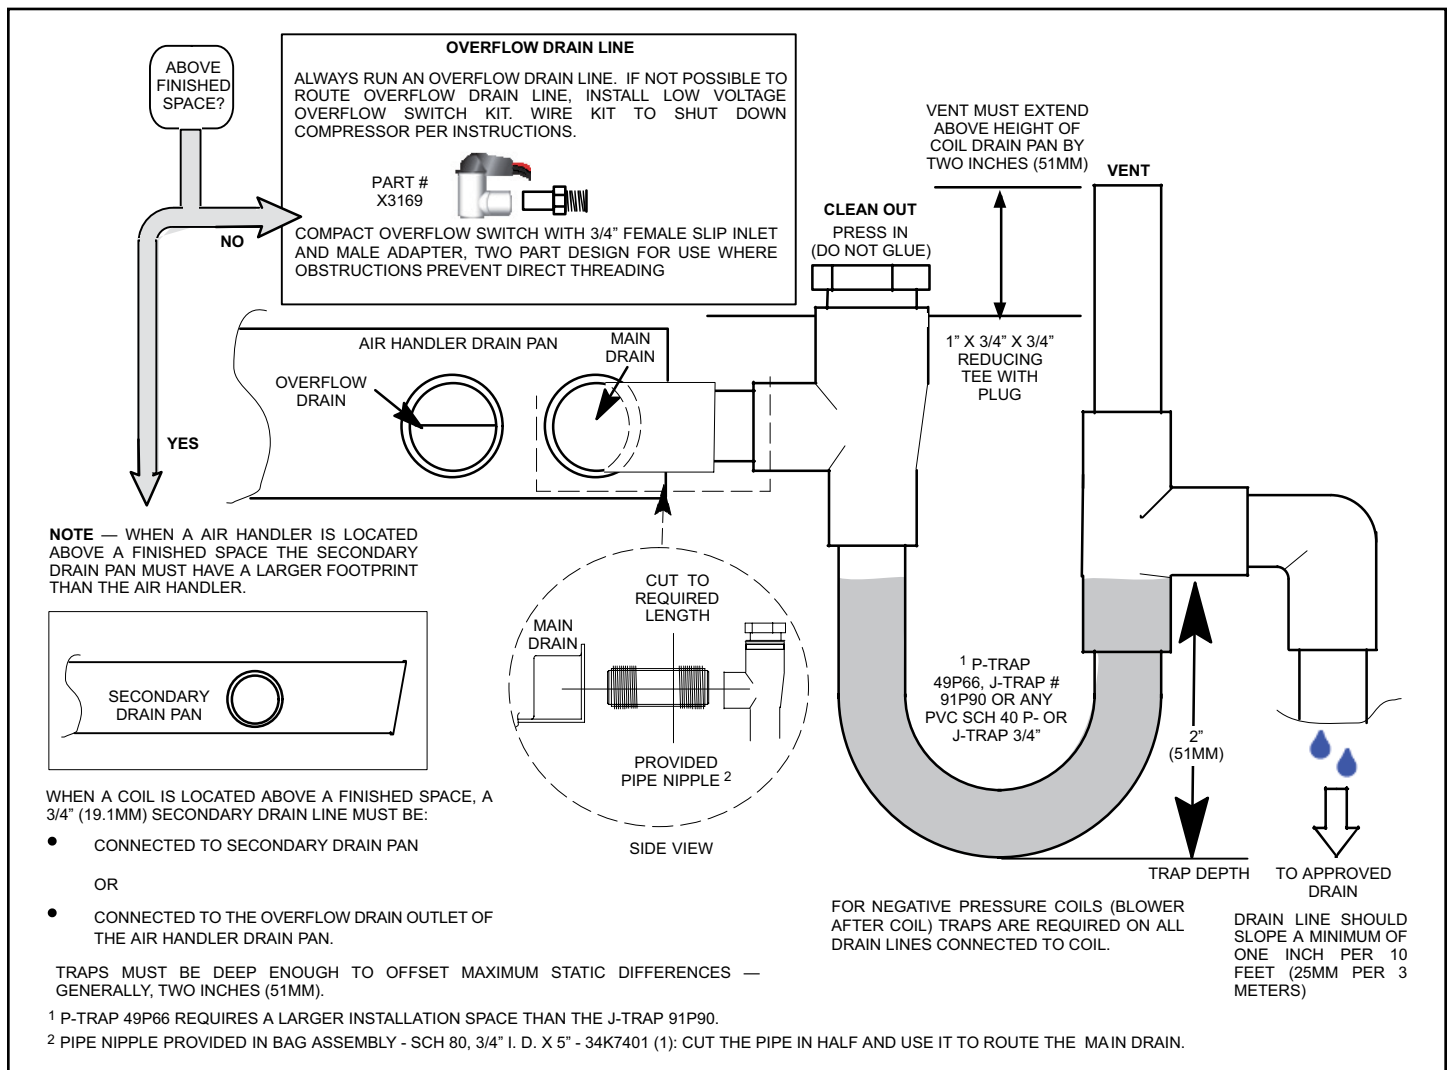

Figure 7. Typical Main and Overflow Drain
6. Install a 2" trap in the main (primary) drain lines as close to the unit as practical (see Figure 7). Make sure the top of the trap is below the connection to the drain pan to allow complete drainage of the pan.
NOTE: Horizontal runs must have an anti-siphon air vent (standpipe) installed ahead of the horizontal run. See Figure 7. An extremely long horizontal run may require an oversized drain line to eliminate air traps.